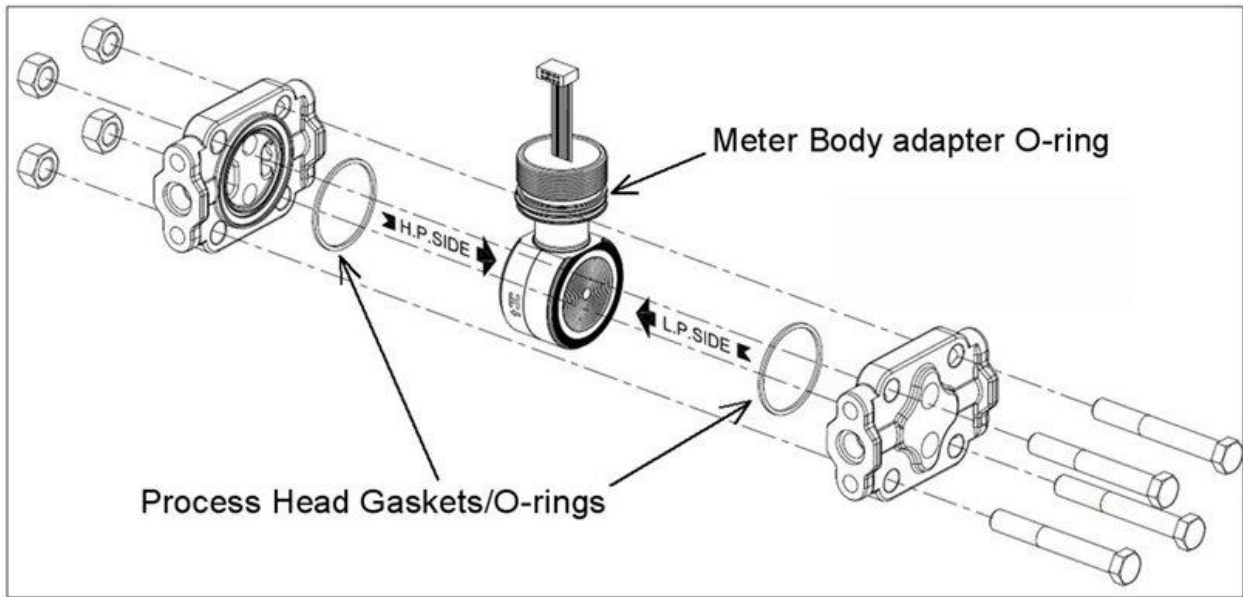

Figure 29 – Meter Body Reassembly
15. Refer to Figure 29. Apply Parker Super O-Lube O-Ring lubricant to the meter body adapter O-ring and carefully assemble the O-ring to the meter body. Assemble the process head(s) and bolts to the new meter body. For now, make the bolts only finger-tight.